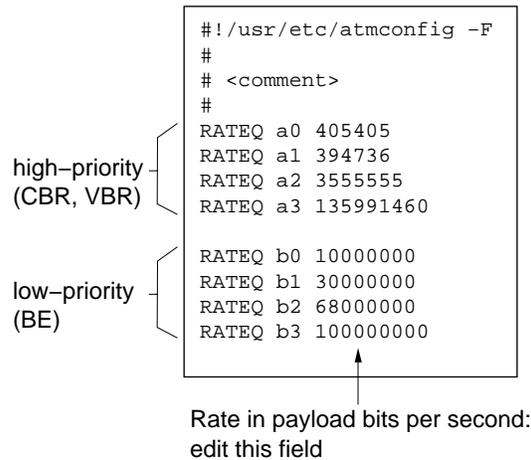

Figure 3-1 Format for *atmhw.conf* Files
3. Open the file for editing. Locate the line (or lines) for the rate queue (or queues) that you want to reconfigure. Figure 3-1 illustrates the format for the entries in this file.
5. Edit the third field in the line. Figure 3-1 illustrates the format for the entries in this file. Appendix B lists the rates that are supported. The value in this field is a decimal numeral within the range 0 to 137,142,800 indicating the number of bits of ATM payload data that is transmitted per second. Since each ATM cell carries 384 payload bits, you can convert a cellrate to payload bits per second by multiplying the desired cellrate times 384.